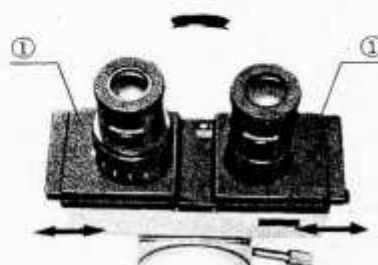

Fig. 12
- 2) Looking through the eyepieces with both eyes, adjust the interpupillary distance of the binocular tube by adjusting the knurled dovetail slides ① of the right and left eyepiece tubes with both hands until perfect binocular vision is obtained. (Fig. 12)